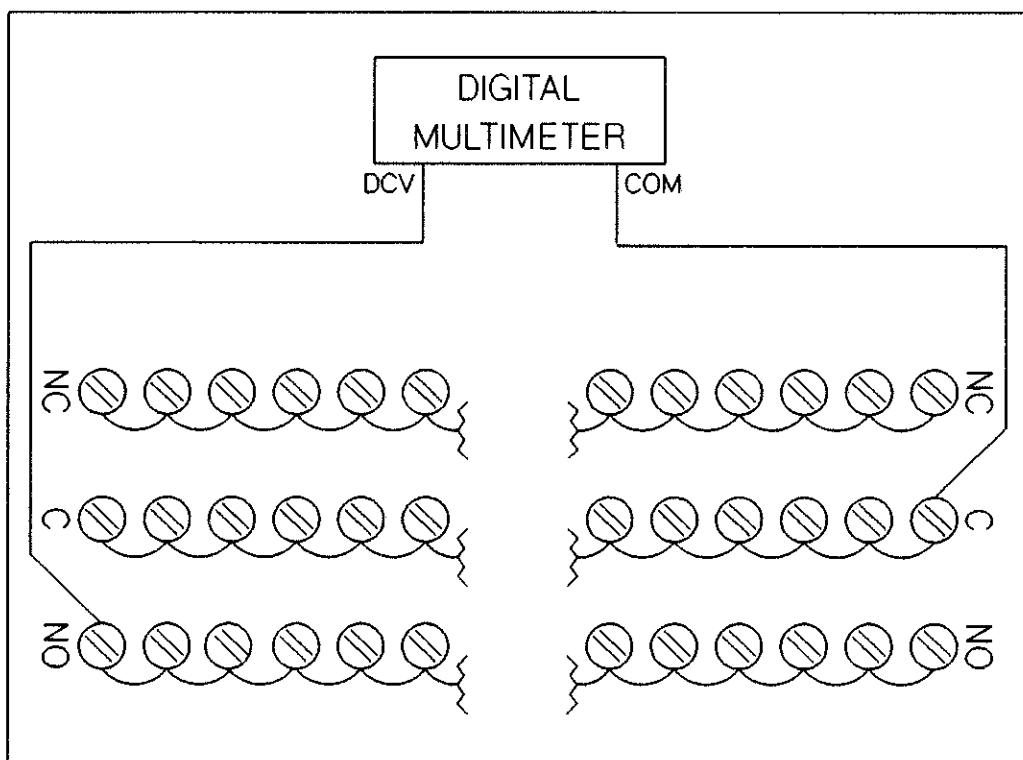

Figure 14-7 HP 44725A NO Channels Thermal Offset Test Set-Up
3. Perform the Set-Up Procedure given in Section 14-18. The NO Thermal Offset test set-up is shown in Figure 14-7.